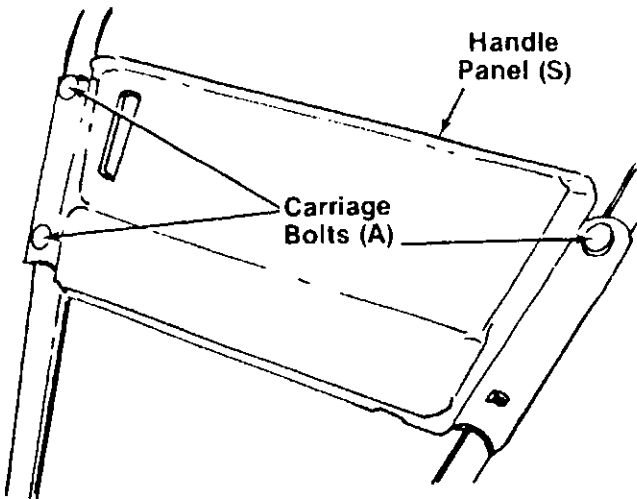

FIGURE 10.
10. Place the handle panel (S) in position on the handles. Secure the upper holes in the panel to the handles with carriage bolts (A), lock washers (B) and hex nuts (C), finger tight only. See figure 10.
11. Place carriage bolt (A) through the handle panel, handle and handle brace on the lower right hand side of the handle panel, finger tight only. See figure 10.